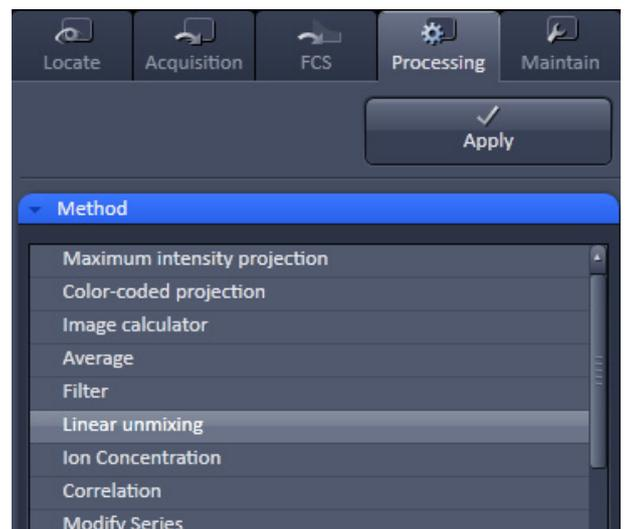

Fig. 145 Processing – Linear unmixing
- To open the **Linear unmixing** tool, click on **Linear unmixing** in the **Processing** tool list under the **Processing** tab (Fig. 145).